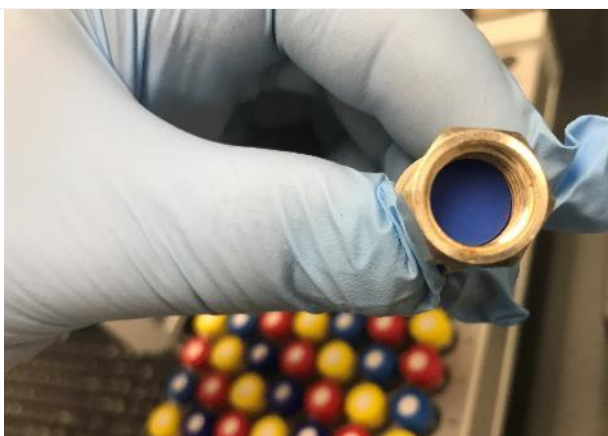

Figure 160. Insert the New Septa into the Cap.
*Note: Figure 160 is an example of a septa stuck in the cap upon removal.*